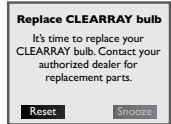

Figure 15.0c
21. **CLEARRAY Replacement Reminder:** This message will appear when the **CLEARRAY** bulb reminder time has expired (Figure 15.0c). The **CLEARRAY** bulb must be replaced.